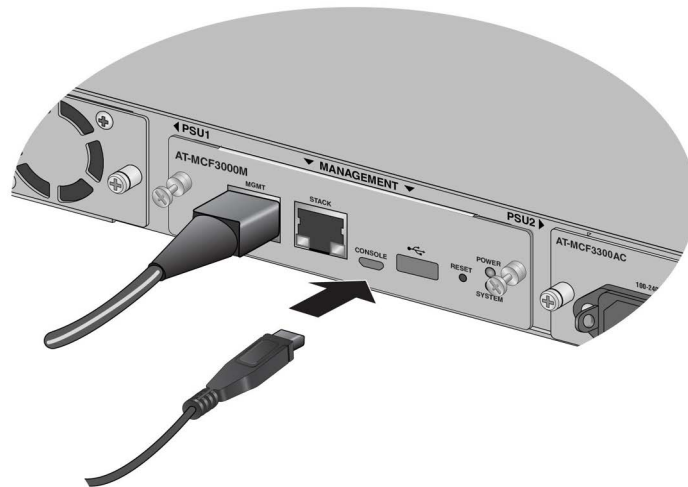

Figure 65. Connecting the Management Cable to the CONSOLE Port
1. Connect the micro-USB connector on the management cable to the CONSOLE port on the management module. Refer to Figure 65.